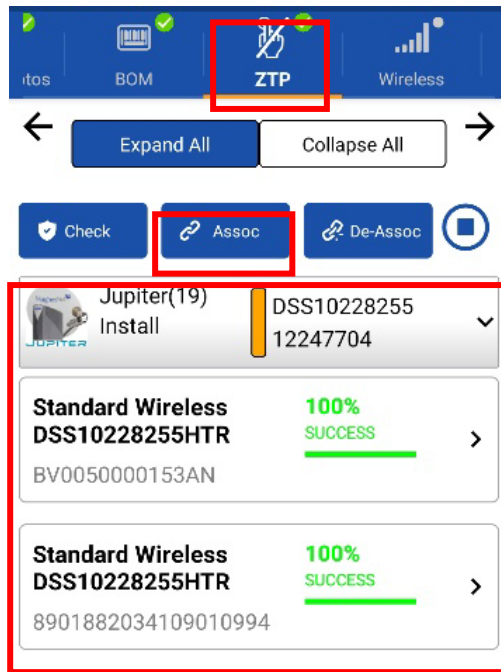

Figure 62: ZTP screen
3. When you reach the ZTP screen, first ensure that the correct site account number (SAN) is selected, and that the device type is correct (Figure 62). OASIS associates the device to the indicated SAN.
- a. Make sure that the device is connected to the internet, and then press the **Assoc** button as shown in (Figure 62). Alternatively, expand the device and select the individual Assoc button to complete the associations one at a time.